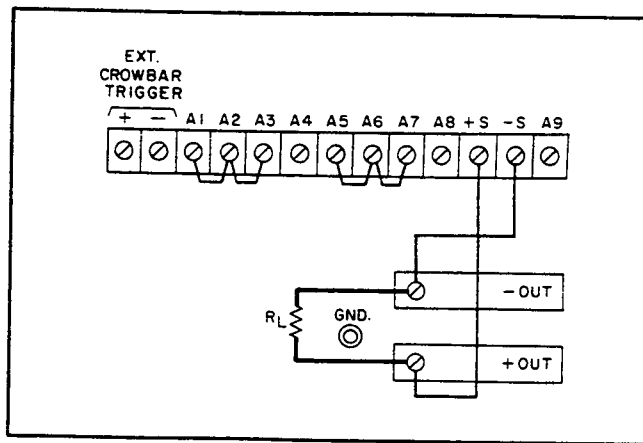

Figure 3-2. Normal Strapping Pattern
a. Turn CURRENT controls (7) and OVERVOLTAGE ADJUST potentiometer (5) fully clockwise and check that rear panel straps are connected as shown in Figure 3-2, but do not connect load R_L .
- c. Set LINE switch or circuit breaker (1) ON and observe that pilot lamp (2) lights.
- d. Adjust COARSE and FINE VOLTAGE controls (3) for desired indication on voltmeter (4).
- e. Ensure that overvoltage crowbar circuit is operational by slowly turning OVERVOLTAGE ADJUST control (5) counterclockwise with a screwdriver until OVERVOLTAGE lamp (6) lights and voltmeter indication drops to zero volts.
g. To check the constant current circuit, first turn off the supply, connect a short across the output bus bars (see Figure 3-2), and turn it back on.
h. Adjust **COARSE** and **FINE CURRENT** controls ⑦ until ammeter ⑧ indicates desired output current or current limit. (The **VOLTAGE** controls must be set for a greater-than-zero output to obtain the output current programmed.)
3-7 This power supply was shipped with the proper rear panel strapping connections made for constant-voltage/constant-current operation with local sensing and local programming. This strapping pattern is illustrated in Figure 3-2. By means of the front panel voltage and current controls, the operator selects either a constant-voltage or a constant-current output. Whether the supply functions in the constant-voltage or the constant-current mode depends on the settings of the voltage and current controls and on the resistance of the output load. For values of load resistance greater than a critical crossover value equal to the voltage setting divided by the current setting, the supply operates in the constant-voltage mode. With a load resistance smaller than this critical value, it operates in the constant-current mode. The transition occurs automatically; no switches need to be operated or connections changed.
3-28 Because of the unavoidable voltage drop developed in the load leads, the normal strapping pattern shown in Figure 3-2 will not provide the best possible voltage regulation at the load. If, for example, one were to use 4-gauge wire to connect a load that is located only 5 feet from a
The +S jumper is the one that links the +S terminal to the +OUT terminal when the supply's terminals are strapped for normal operation as shown in Figure 3-2. The -S jumper is the one that links the -S terminal to the -OUT terminal.